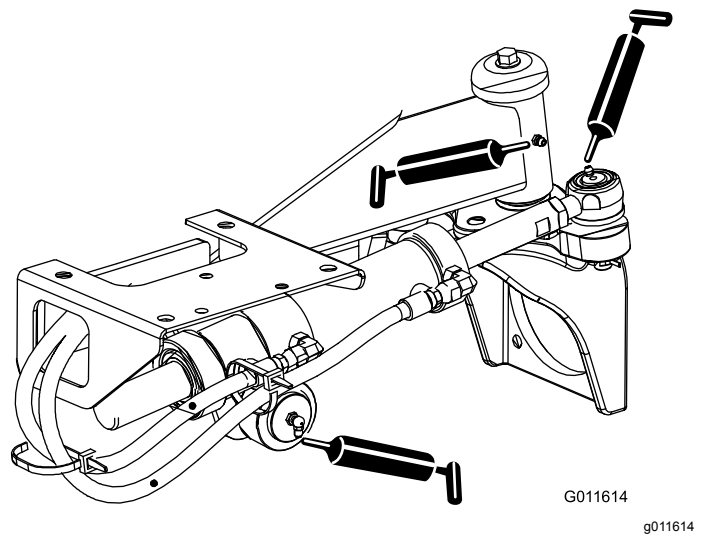

Figure 53
- Steering cylinder ball joints (2) and rear axle (1) (Figure 53)